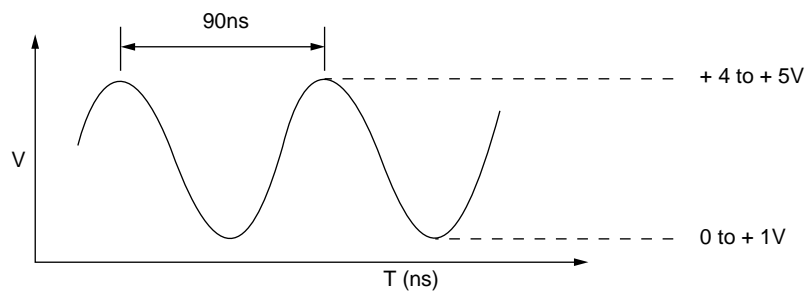

Figure B-4
• Is the OSC oscillation waveform as specified in Figure B-4?